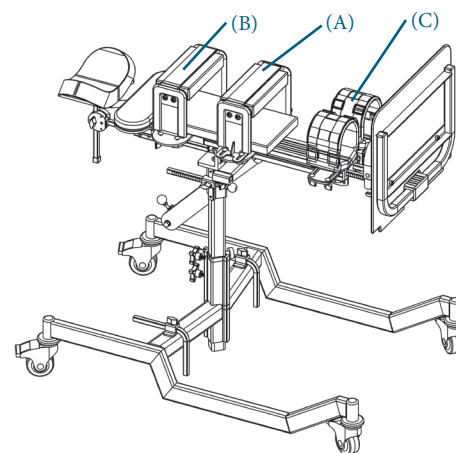

Fig. 11.2.2 - VERTIFLEX standard dorsal montré
11.2.2 VERTIFLEX TYPE DORSAL (Fig. 11.2.2)